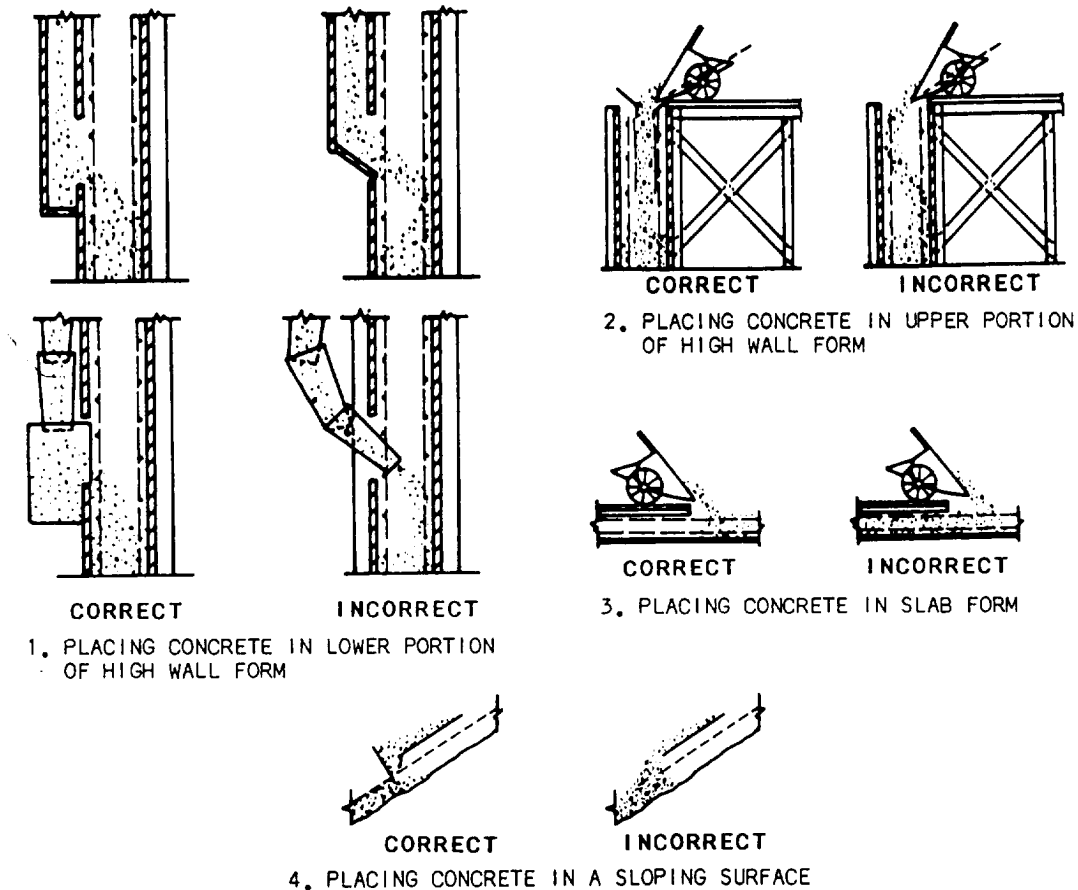

Figure 7-41.-Concrete placing techniques.
- **Maximum drop**— To save time and effort, you may be tempted to simply drop the concrete directly from the delivery chute regardless of form height. However, unless the free fall into the form is less than 4 feet, use vertical pipes, suitable drop chutes, or baffles. Figure 7-41 suggests several ways to control concrete fall. Good control prevents honeycombing and other undesirable results.
- **Wall construction**— When constructing walls, beams, or girders, place the first batches of each layer at the ends of the section, then proceed toward the center to prevent water from collecting at the form ends and corners. For walls, stop off the inside form at the construction level. Overfill the form for about 2 inches and remove the excess just before the concrete sets to ensure a rough, clean surface. Before placing the next lift of concrete, deposit a 1/2- to 1-inch-thick layer of sand-cement mortar. Make the mortar with the same water content ratio as the concrete and with a 6-inch slump to prevent stone pockets and help produce a watertight joint. View 1 of figure 7-41 shows the proper way to place concrete in the lower portion of high wall forms. Note the different types of drop chute that can be used to place concrete through port openings and into the lower portion of the wall. Space the port openings at about 10-foot intervals up the wall. The method used to place concrete in the upper portion of the wall is shown in view 2 of figure 7-41. When placing concrete for walls, be sure to remove the spreaders as you fill the forms.
- **Slab construction**— When constructing slabs, place the concrete at the far end of the slab first, and then place subsequent batches against previously placed concrete, as shown in view 3 of figure 7-41. Do not place the concrete in separate piles and then level the piles and work them together. Also, don't deposit the concrete in piles and then move them horizontally to their final position. These practices can result in segregation.
- **Placing concrete on slopes**— View 4 of figure 7-41 shows how to place concrete on slopes. Always deposit the concrete at the bottom of the slope first, then proceed up the slope placing each new batch against the previous one. When consolidated, the weight of the new concrete increases the compacting of the previously placed concrete.